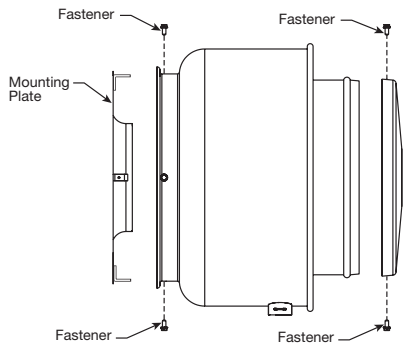

Figure 2
1. Remove mounting plate from unit by removing the fasteners shown in Figure 2.
2. Remove motor compartment cover by removing fasteners shown in Figure 2. Place cover on a flat surface in an area protected from strong winds.